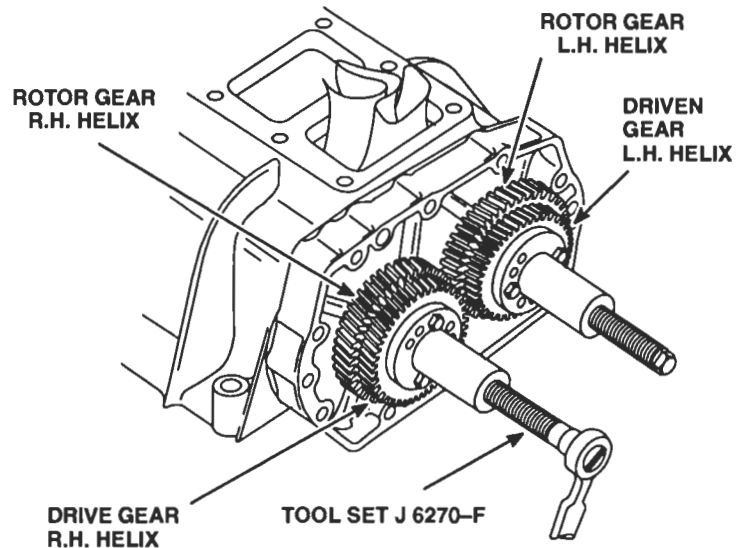

Figure 6. Removing Blower Rotor Gears from Blower Rotor Shafts
- c. With shop towels between the blower rotors and housing to prevent them from turning, turn the puller screws uniformly clockwise and pull the gears from the rotor shafts (Figure 6.)